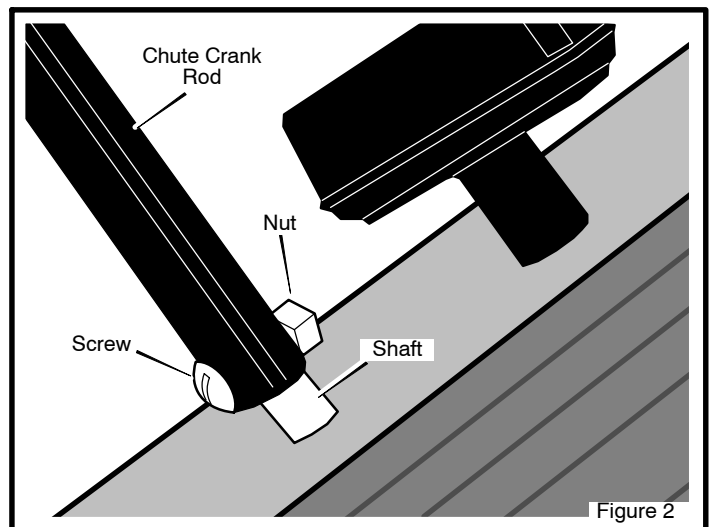

Figure 2
1. Remove the **screw** and **nut** from the **shaft** with flat screwdriver and adjustable wrench (see Figure 2).